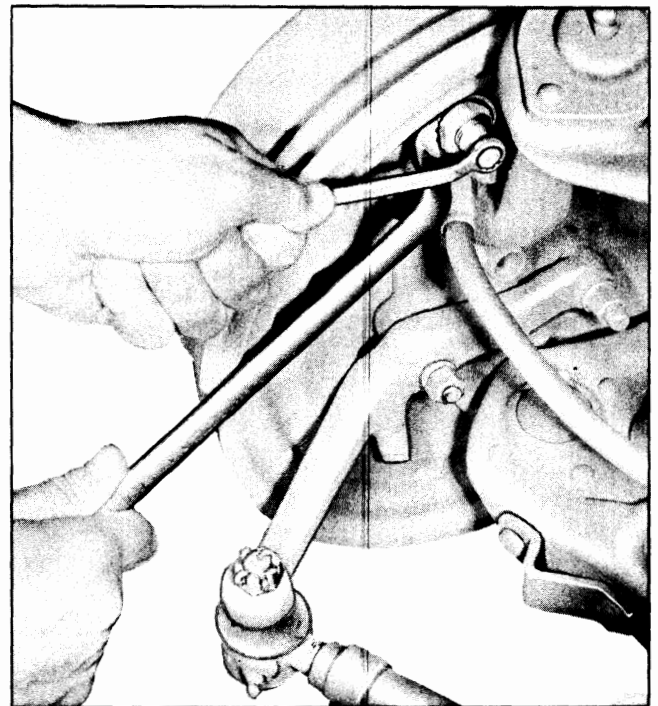

Fig. 5-10 Adjusting Anchor Pin
8. Change clearance at anchor pin end of lining by rotating anchor pin (Fig. 5-10). Rear brakes having fixed anchors require replacement of any parts preventing proper clearances.